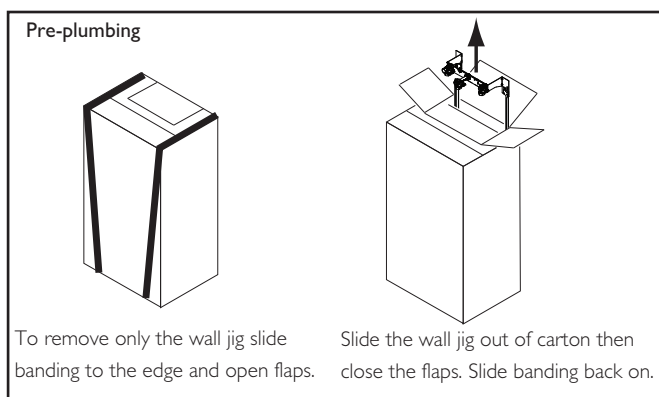

Fig. 19
3. If pre-plumbing (Fig. 19) - the wall jig and fitting kit can be removed without removing the carton sleeve. Simply slide banding to the edge and open the perforated flap, lift out the jig, fitting kit and instructions. If the boiler is to be installed at a later date, close the flap and reposition the banding straps, the boiler can now be stored safely away.